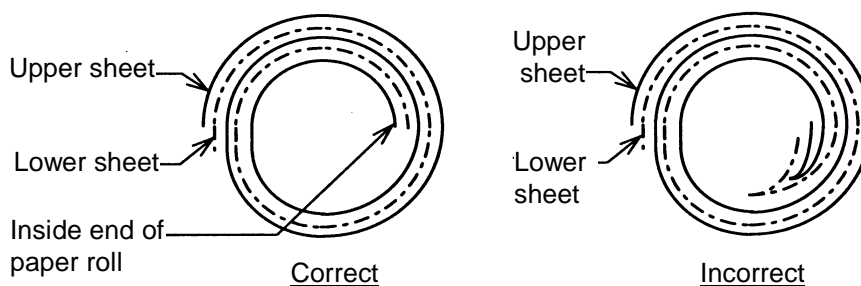

Figure 2.1.1
- ① No fold is allowed. The paper must be wound so that the paper edge goes along the internal circumference. (Refer to Figure 2.1.1)
- ② No folding back is allowed.
- ③ The inside end must not be glued to the core (when a core exists).
- ④ The upper and lower layers of paper must not be glued to each other.